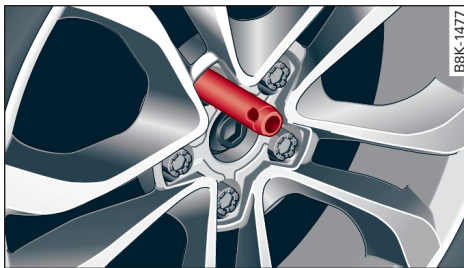

Fig. 176 Wheel: Mounting pin in wheel bolt hole nearest to the top
- Screw in the mounting pin (provided in the vehicle toolkit) by hand in place of the wheel bolt ⇒ Fig. 176.